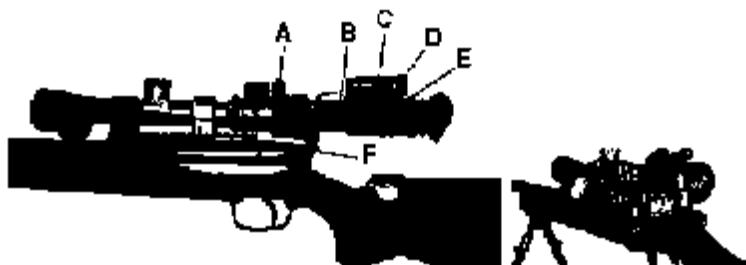

Figure 3-4
1. Install the Picatinny Adapter on one of the monocular rails (See figure 3-4 F).